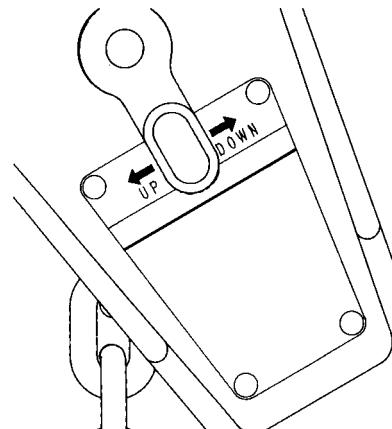

Fig. 4
3. Place direction lever on handle in the center neutral position, (Fig. 4) so that chain free-wheels. **Note:** Chain will only free wheel when there is no load. Take up slack by pulling on loose or free end or by turning hand wheel.
4. Move direction lever to the up position, (Fig. 4). Ratchet handle to raise or pull load. **Do not** overload the puller.
5. To release or lower load, turn direction lever on handle to the down position, (Fig. 4) and ratchet handle.